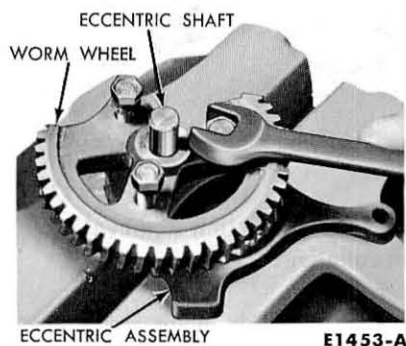
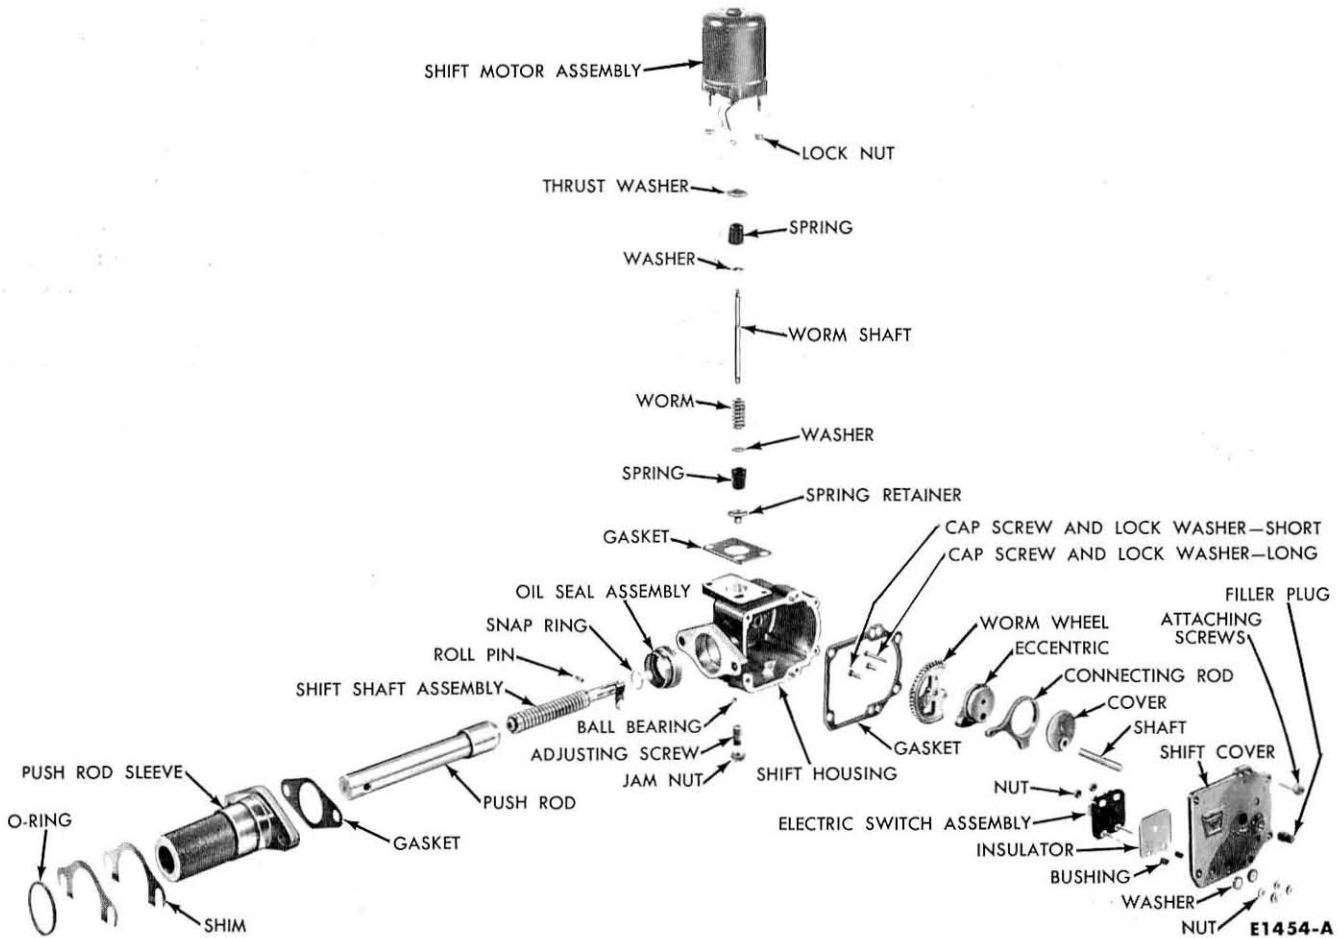

FIG. 10—Worm Wheel and Eccentric Components
FIG. 11—Shift Unit Disassembled
operates the push rod and shift collar (Fig. 11).
5. Remove the worm wheel and eccentric assembly from the housing. While holding the assembly in a vise, remove the cap screws and lock washers and drive the eccentric shaft out of the assembly (Fig. 10).
1. Assemble the worm, springs, spring washers, and thrust washer to the worm shaft and press on the lower spring retainer (Fig. 11). Position the worm shaft assembly in the shift housing.
6. Position the worm wheel at the inner side of the eccentric. Place the connecting rod and cover on the outer side (Fig. 11). While holding these components in a vise, fasten them together by driving the eccentric shaft through the assembly (Fig. 10). The shaft should protrude an equal distance from each side of the assembly. Install the cap screws and lock washers.